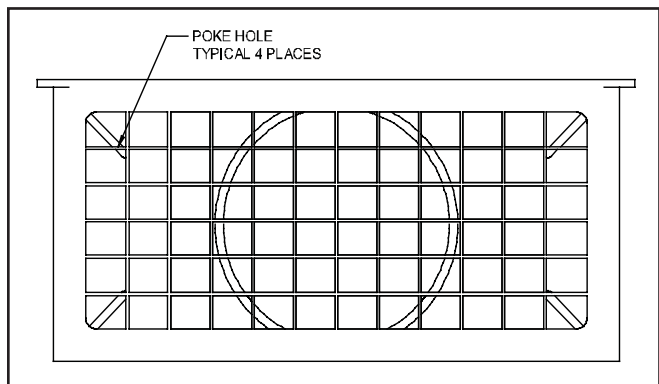

Figure 3
2. Hold ELIMINATOR™ unit against the vent. Mark and poke 4 holes through the backing screen. This is to be done at the location where the slotted mounting holes and the vent grill mesh intersect. (See Figure 3)